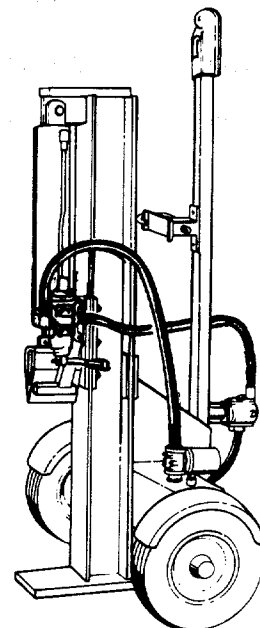

FIGURE 19.—Model 424/LCD/22 Shown
6. The tongue can be removed and reattached in an upright position as shown in figure 19 to take less space when storing.